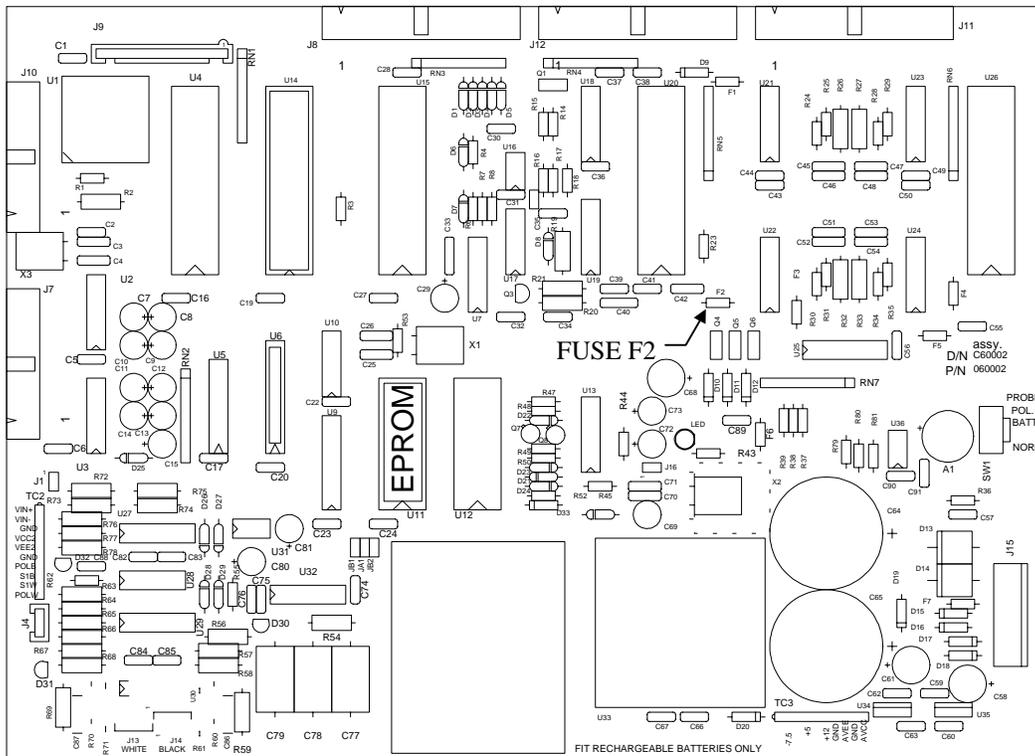
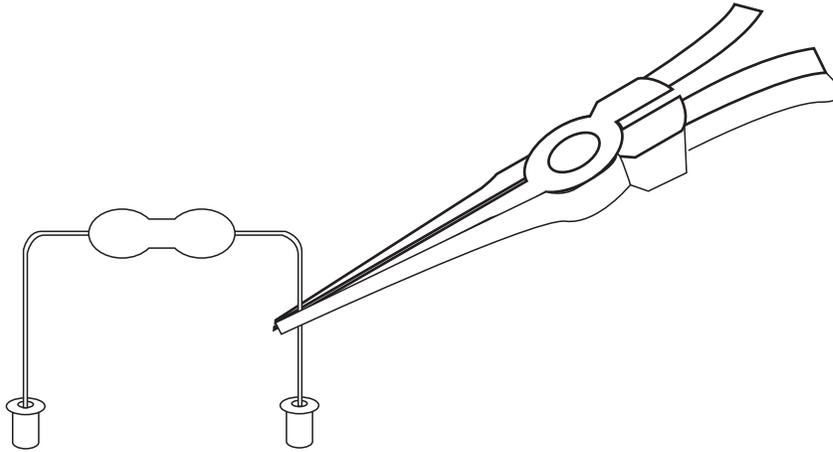

Figure 2 Eprom Installation
Figure 3 Fuse Installation
5. Refer to Figure 2 to help you find the location of the 28 pin EPROM IC U11. Note the orientation of the IC, specifically the position of the "notch" at the bottom of the part near the battery holder.
9. Refer to Figure 2 to help you find the location of the fuse F2. This 1 amp fuse must be removed and replaced with the 2 amp fuse provided. Carefully remove the old 1 amp fuse by grasping the green body with your hand and pulling on each end until it comes out of the socket. Install the new 2 amp fuse by carefully pushing each end into the socket (a small amount at a time) with needle-nose pliers. See Figure 3.